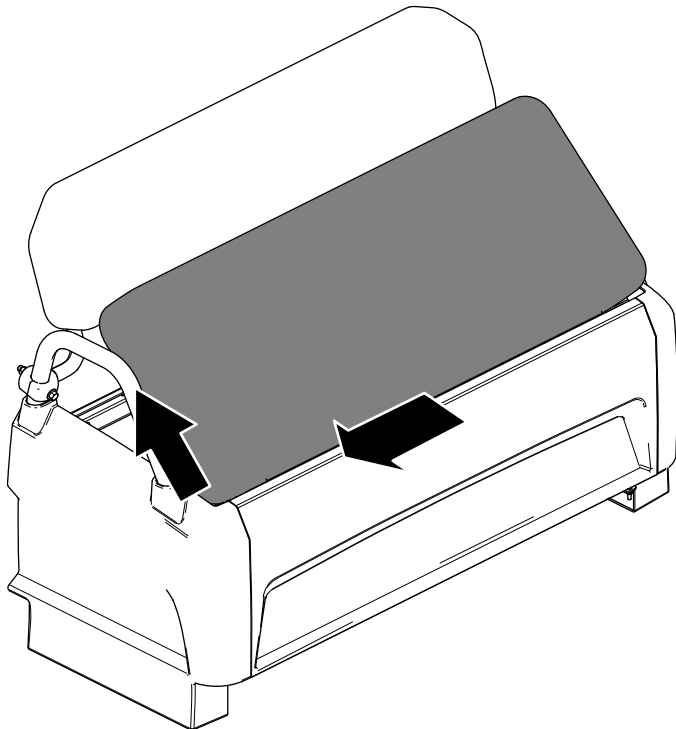

Figure 35
2. Slide the cushion to the side, out of the pins, and lift the cushion upward (Figure 35).